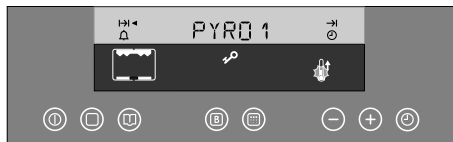

Fig. 29
7. When temperature inside the oven reaches 300°C, the door lock will be activated and the corresponding symbol  will be displayed (Fig. 29).